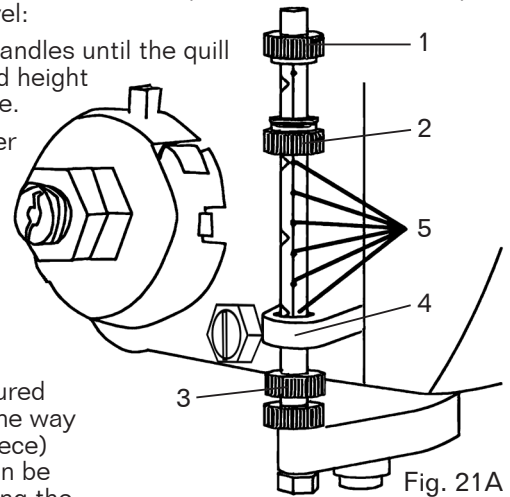

Fig. 21A
### ADJUST THE DRILLING DEPTH (FIG. 21A)
1. Rotate the lower depth scale knob (Fig. 21A - 2) until the bottom of the knob is aligned with the desired depth mark (Fig. 21A - 5) on the gauge scale.
2. Rotate the depth scale lock knob (Fig. 21A - 1) until it meets the lower depth scale knob (Fig. 21A - 2). The chuck will stop after travelling downward to the selected distance.
2. Rotate the lower depth knob (Fig. 21A - 3) until it rests against the bottom of the metal gauge support (Fig. 21A - 4).